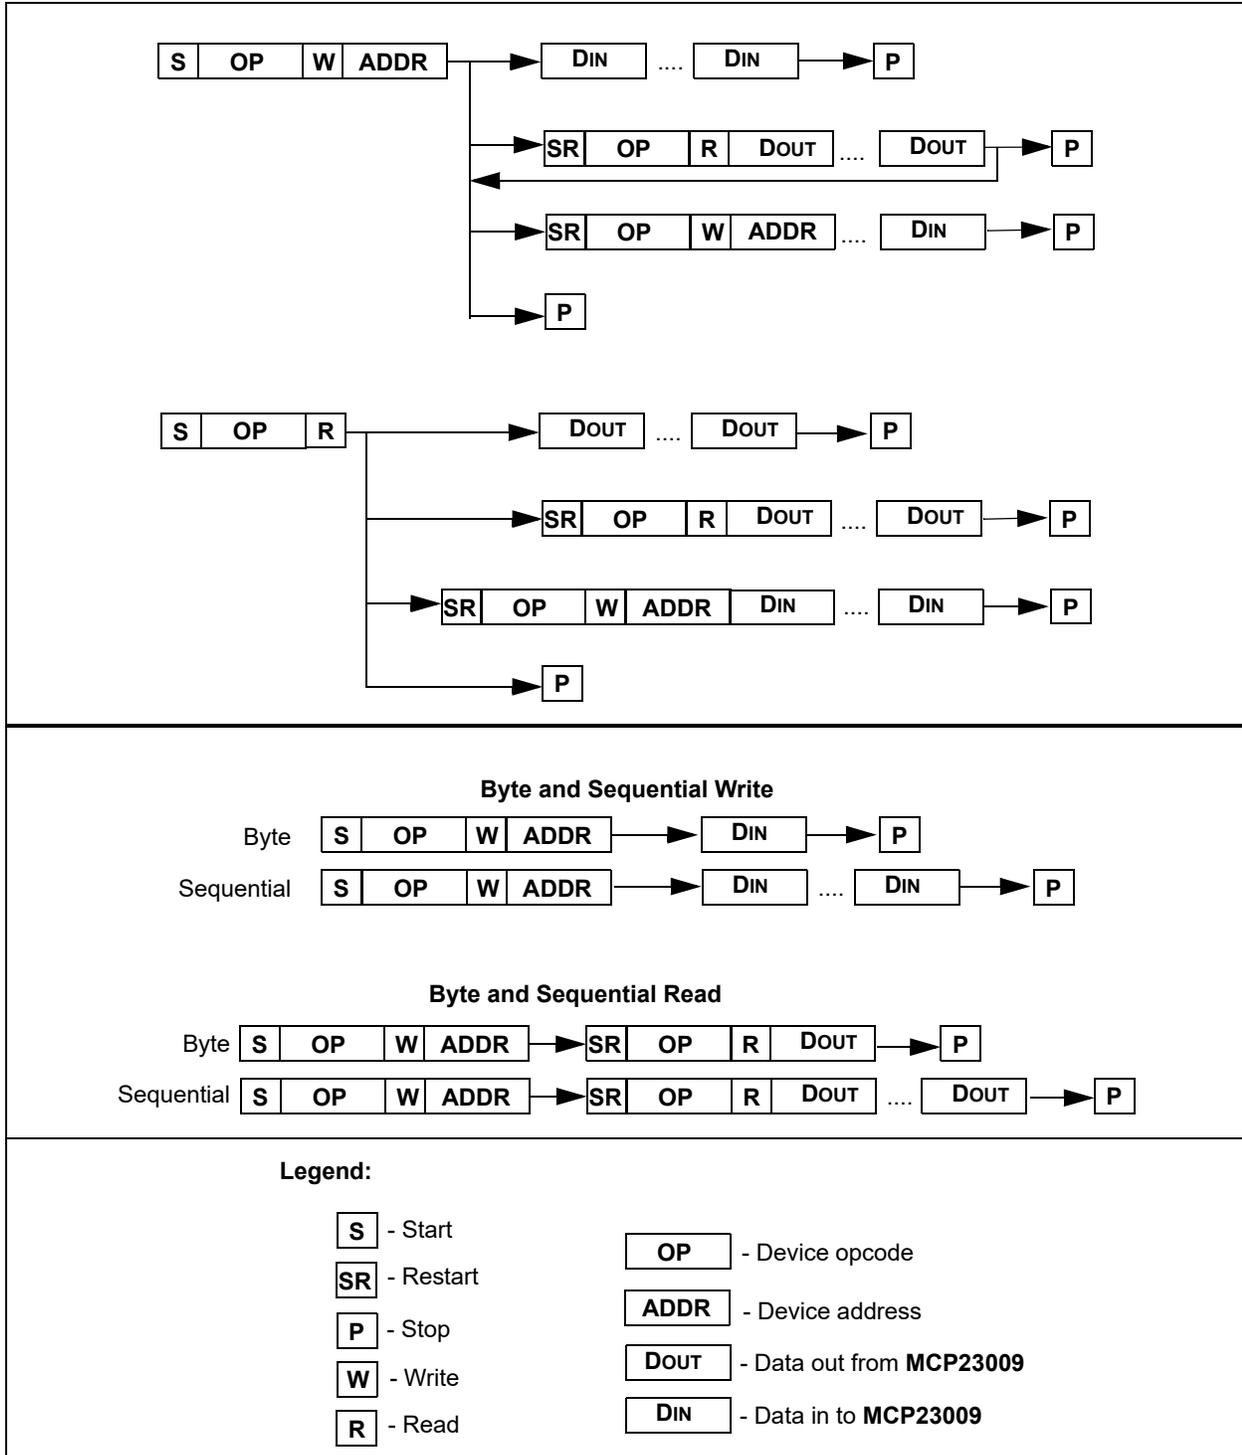

FIGURE 1-1: MCP23009 I²C™ Device Protocol.
The I²C write operation includes the control byte and the register address sequence, as shown in the bottom of Figure 1-1. This sequence is followed by eight bits of data from the host and an Acknowledge (ACK) from MCP23009. The operation is ended with a Stop (P) or Restart (SR) condition being generated by the host.
I²C read operations include the control byte sequence, as shown in the bottom of Figure 1-1. This sequence is followed by another control byte (including the Start condition and ACK) with the R/W bit equal to a logic one (R/W = 1). MCP23009 then transmits the data contained in the addressed register. The sequence is ended with the host generating a Stop or Restart condition.
Refer to Figure 1-1.